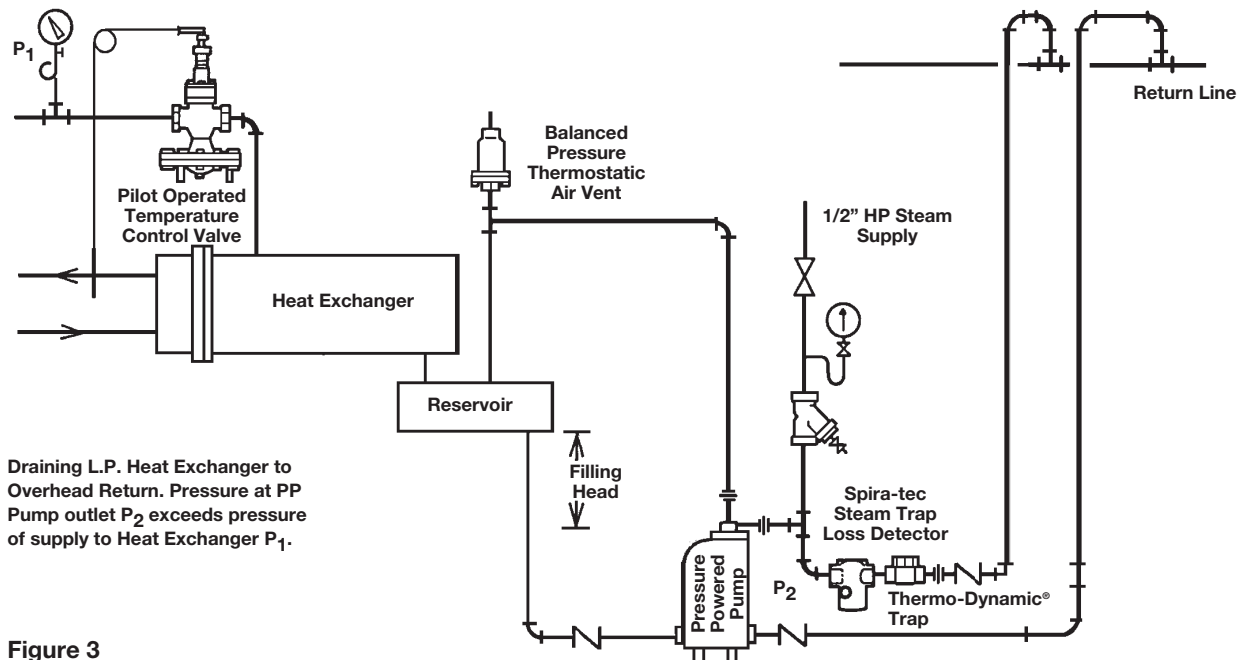

Figure 3
Installation – Closed Loop Systems (Figs. 3 or 4)
1. Install the pump physically below the equipment being drained with the exhaust connection (10) vertically upwards. Pump should be installed with the recommended filling head (the vertical distance between the top of the pump and the bottom of the reservoir) as shown in Fig. 3. For other filling head variations, see Capacity Table on TIS 5.202.
2. To prevent equipment flooding during the pump discharge stroke, a reservoir pipe should be installed in a horizontal plane ahead of the pump as shown in Fig. 3. For proper reservoir sizing, refer to "Inlet Reservoir Piping" table shown on this page. All inlet line fittings must be fully ported. If desired, overflow piping can be installed using a properly sized float and thermostatic trap. The trap inlet should be located at the maximum allowable water level, at or near the top of the reservoir, and it should discharge to a suitable drain.
3. Connect the check valves (8) and (9) to the pump, making sure that the flow through the valves is in the proper direction. For best performance, horizontal piping runs immediately ahead of the inlet check valve and after the discharge check valve should be kept to a minimum. Connect the discharge to the return main or other installation point.